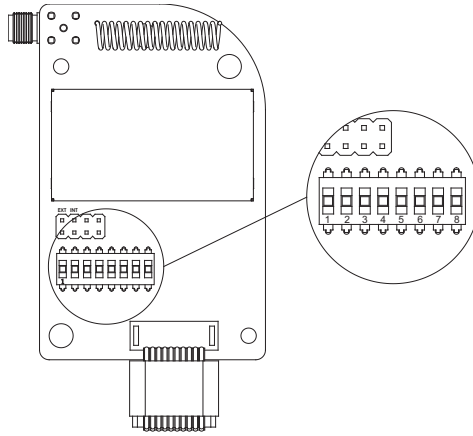
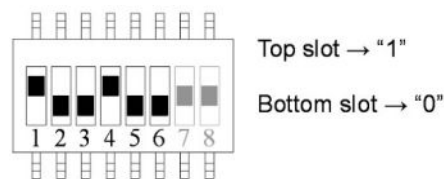

Fig. 11
Fig. 12
Set the receiver channel by adjusting the channel dipswitch located on the receiver module (**see Fig. 11**). Only the first six (6) positions are used for channel programming (**see Fig. 12**). The system channels table in **Section 5 on page 47** illustrates which dipswitch setting corresponds to which channel. Once the receiver channel is altered, be sure to change the transmitter channel as well. The channel on both the transmitter and receiver must be identical in order for the system to work. To change the transmitter channel, **see Section 4.1.1 on page 21**.